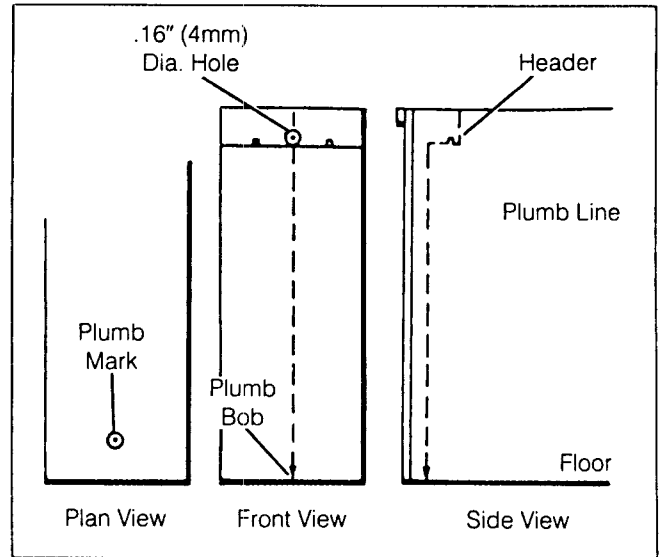

Figure 22. Plumbing Switchgear Units
3. Check group for plumb. The first breaker cubicle in from each end of every shipping group will have a plumb mark stamped on the floor plate. This mark is located inside the breaker drawout compartment and is represented by a center punch mark with a circle around it. Directly above this mark is a 16" (4 mm) dia. hole in the header of the breaker compartment, as illustrated in Figure 22. Insert the plumb bob line through this hole toward the inside of the compartment, and tie off line with plumb bob hanging free. The point of the plumb bob must be within .12" (3.2 mm) of the factory installed plumb mark represented by the center punch. The circle around the punch has no meaning and is only an aid to locate the punch mark. All plumb readings should be taken with anchor bolts tight. If it is not within .12" (3.2 mm), it could be due either to unlevel sills or the cubicles being damaged in shipment. Check first to insure that sills are level. If sills are not level, add 4" x 4" (100 x 100 mm) steel shims on top of sill, adjacent to the anchor bolts, as necessary to achieve a level floor in all cubicles and to insure that all cubicles are in firm contact with the foundation at each anchor point. Tighten the anchor bolts. If plumb bob point is still not within .12" (3.2 mm) after floor leveling, proceed to step No. 5. below.
5. The switchgear equipment represented was accurately aligned on level steel bed plates at the factory. This care insures proper operation and fit of mating parts. Supporting surfaces for the switchgear's 4" x 6" (101.6 x 152.4 mm) beams must be level and in the same plane within .06" (1.6 mm). If concrete, grouted channels, pier support plates, etc. do not meet this requirement, or if there is any projection higher than the support points in line with beams, shims must be installed in the following manner to provide equivalent true surface for switchgear support. 5 kV and 15 kV outdoor switchgear groups which have been assembled on 4" x 6" (101.6 x 152.4 mm) beams must be supported along these beams with the maximum span between support points not exceeding nine (9) feet (2743 mm). When switchgear line-up includes 1000 MVA breakers this maximum span must be decreased to six (6) feet (1830 mm). If shims are required use 4" (100 mm) square strips placed between bottom of beam and foundation, in the anchor bolt area where they will be clamped firmly in place.
7. The first breaker cubicle in from each end of every shipping group will have a plumb mark stamped on the floor plate (aisle wall must be off). This mark is located inside the breaker drawout compartment and is represented by a center punch mark with a circle around it. Directly above this mark is a .16" (4 mm) dia. hole in the header of the breaker compartment, as illustrated in Figure 22. Insert the plumb bob line through this hole toward the inside of the compartment, and tie off line with plumb bob hanging free. The point of the plumb bob must be within .12" (3.2 mm) of the factory installed plumb mark represented by the center punch. The circle around the punch has no meaning and is only an aid to locate the punch mark. If the plumb bob reading exceeds the .12" (3.2 mm) limitation, does the cubicle read the same direction and approximately the same distance from the punch mark? If this condition exists it would normally indicate that the slab, piers or pilings, as the case may be, are not level and/or are not in the same plane. The addition of shims between foundation and the bottom of the beam should bring shipping group to level showing plumb reading within the .12" (3.2 mm) tolerance. Note all plumb readings are to be taken with anchor bolts tight.
4. The switchgear equipment represented was accurately aligned on level steel bed plates at the factory. This care insures proper operation and fit of mating parts. Supporting surfaces for the switchgear's 4" x 6" (101 x 152.4 mm) beams must be level and in the same plane within .06" (1.6 mm). If concrete, grouted channels, pier support plates, etc. do not meet this requirement, or if there is any projection higher than the support points in line with beams, shims must be installed in the following manner to provide equivalent true surface for switchgear support. 5 kV and 15 kV outdoor switchgear groups which have been assembled on 4" x 6" (101.6 x 152.4 mm) beams must be supported along these beams with the maximum span between support points not exceeding nine (9) feet (2743 mm). When switchgear line-up includes 1000 MVA breakers this maximum span must be decreased to six (6) feet (1830 mm). If shims are required use 4" (100 mm) square strips placed between bottom of beam and foundation, in the anchor bolt area where they will be clamped firmly in place.
6. The first breaker cubicle in from each end of every shipping group will have a plumb mark stamped on the floor plate. This mark is located inside the breaker drawout compartment and is represented by a center punch mark with a circle around it. Directly above this mark is a .16" (4 mm) dia. hole in the header of the breaker compartment, as illustrated in Figure 22. Insert the plumb bob line through this hole toward the inside of the compartment, and tie off line with plumb bob hanging free. The point of the plumb bob must be within .12" (3.2 mm) of the factory installed plumb mark represented by the center punch. The circle around the punch has no meaning and is only an aid to locate the punch mark. If the plumb bob reading exceed the .12" (3.2 mm) limitation, does the position of the deviation in each end breaker cubicle read the same direction and approximately the same distance from the punch mark? If this condition exists, it would normally indicate that the slab, piers or pilings, as the case may be, are not level and/or are not in the same place. The addition of shims between foundation and the bottom of the beam should bring shipping group to level showing plumb reading within the .12" (3.2 mm) tolerance. Note all plumb readings are to be taken with anchor bolts tight.